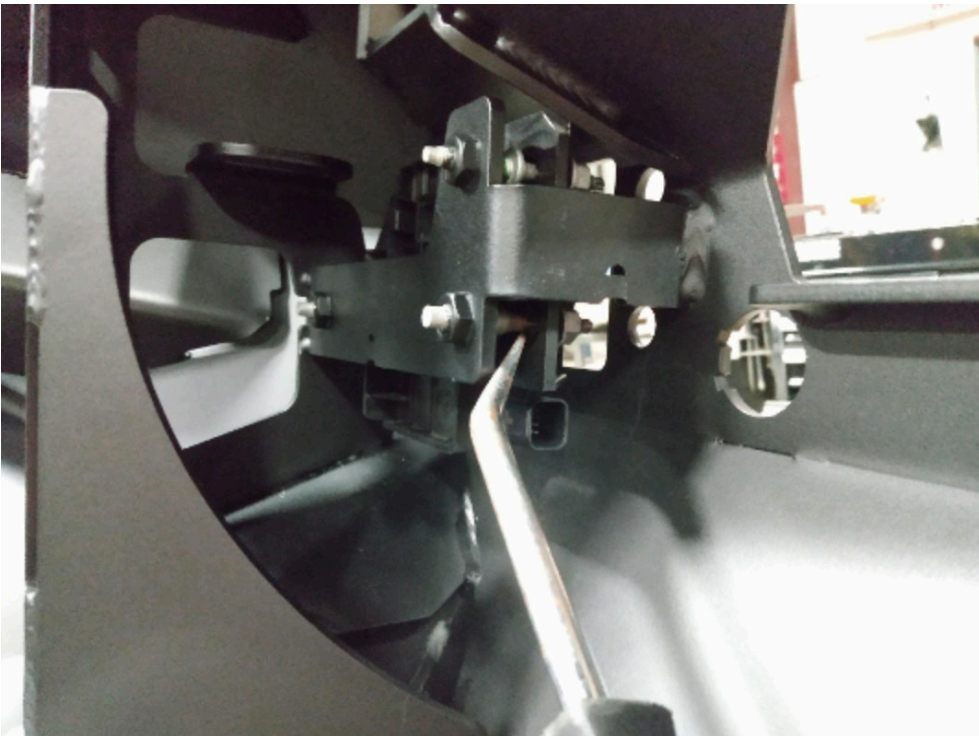

Figure 24
22. Using a pry tool, reset the sockets in the ACC mounting bracket onto the mounting stud balls. Figure 24